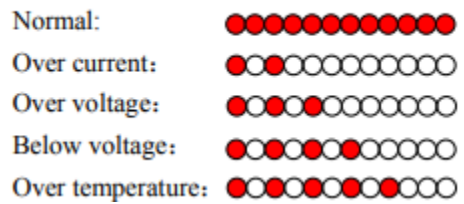

Figure 5: Red LED Warning Display
- **Red LED** – The LED flashes in cycles to display the state and fault of the BLD, See Figure 5.
- Monitor the flashing red LED code on the SR3089A2 board. See Figure 5.